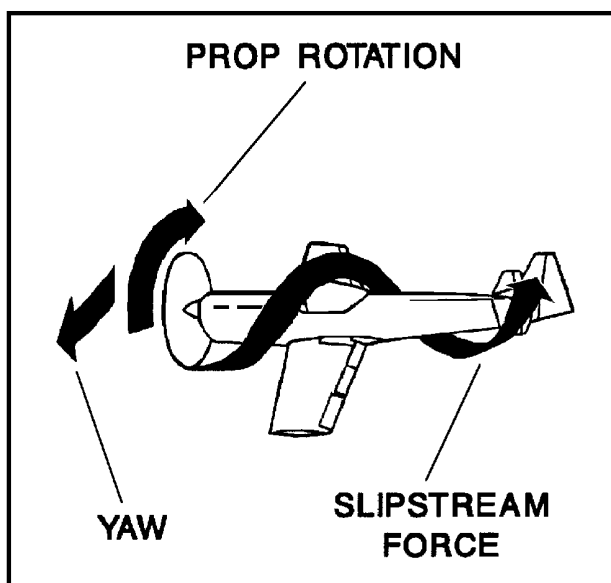

Figure 2.4. Slipstream Effect.
**2.6.3. Slipstream Effect.** The high speed rotation of the propeller gives a corkscrew motion to the slipstream (figure 2.4). Due to the clockwise rotation of the propeller, the slipstream strikes the vertical fin and the rudder slightly from the left, causing the nose of the aircraft to yaw to the left. The rudder is equipped with a small, ground adjustable trim tab set to trim off the rudder forces at cruise rpm and airspeed. When operating at high power settings and (or) low airspeeds, the trim